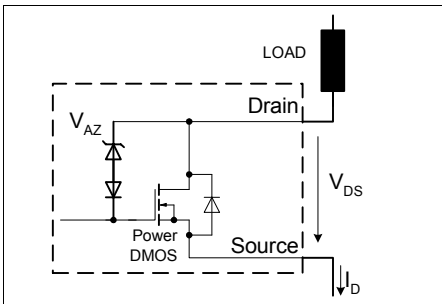

Figure 7 Inductive and Over voltage Output Clamp
1) See also Figure 7 and Figure 10.